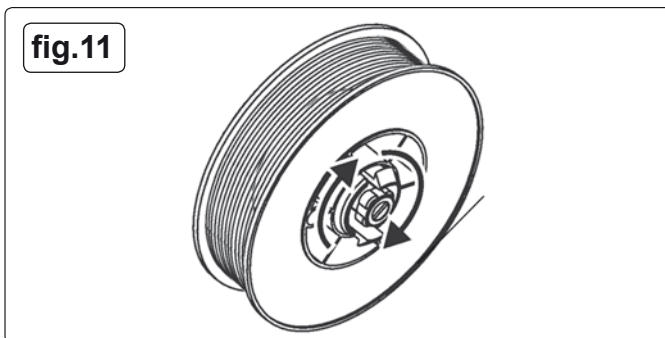

fig.11
3.8.2 Rotate the reel of wire anticlockwise whilst tightening the adjuster in the centre of the reel holder until a slight braking pressure can be felt. See fig.11.
It is essential that the clutch is adjusted correctly. Once the wire is fed through the torch, switch on the machine and set the wire speed and voltage switch to maximum. Depress the torch switch and release quickly. If spool overruns it indicates that the clutch is too loose. Tighten the clutch (located in the centre of the wire spool holder (fig 11), and test the machine as above until the wire stops over running.